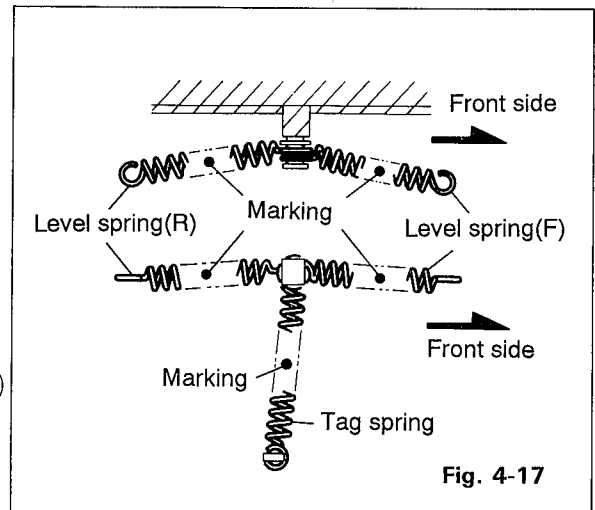

Fig. 4-17
**Note 3.** Since a number of springs are used for this system, remove the respective springs after marking and recording the positions in advance. Moreover, the respective springs should be reassembled according to the order from the tag springs to the level springs (R) and the level springs (F) (See Fig. 4-17).